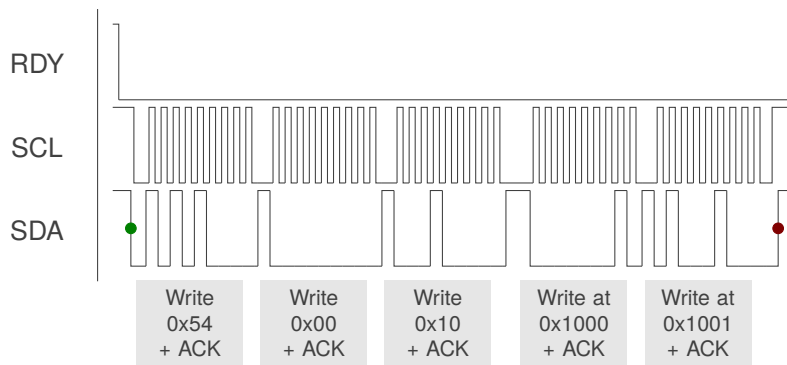

Figure 9.2: I²C Write Example — Write Two Bytes to Button Settings Registers 0x1000 and 0x1001
The write operation is displayed in Figure 9.2. Similar to the read transaction, when the RDY interrupt is triggered, the master initiates communication by sending a start condition followed by the device address and a write command. The IQS324 responds with an acknowledgement, after which the master device transmits two bytes defining the register address. The slave acknowledges the register address bytes. The master may then write a series of bytes to the register address and the addresses that follow, with each byte being acknowledged by the slave. The write operation is ended when the master produces a stop condition.
- > Write the new values back over I²C, as shown in Figure 9.2.